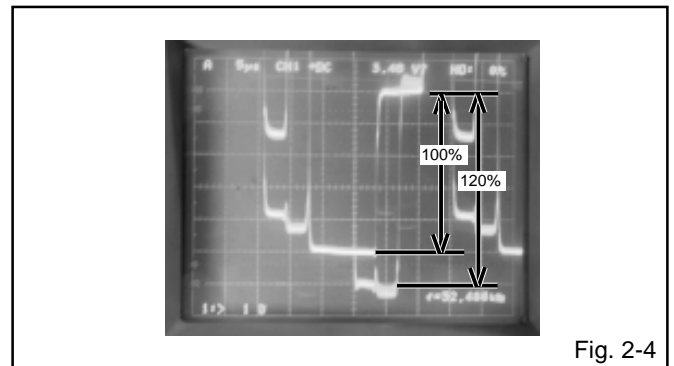

Fig. 2-4
7. Press the VOL. UP/DOWN button on the remote control until the red color level is adjusted to  $120 \pm 10\%$  of the white level. **(Refer to Fig. 2-4)**